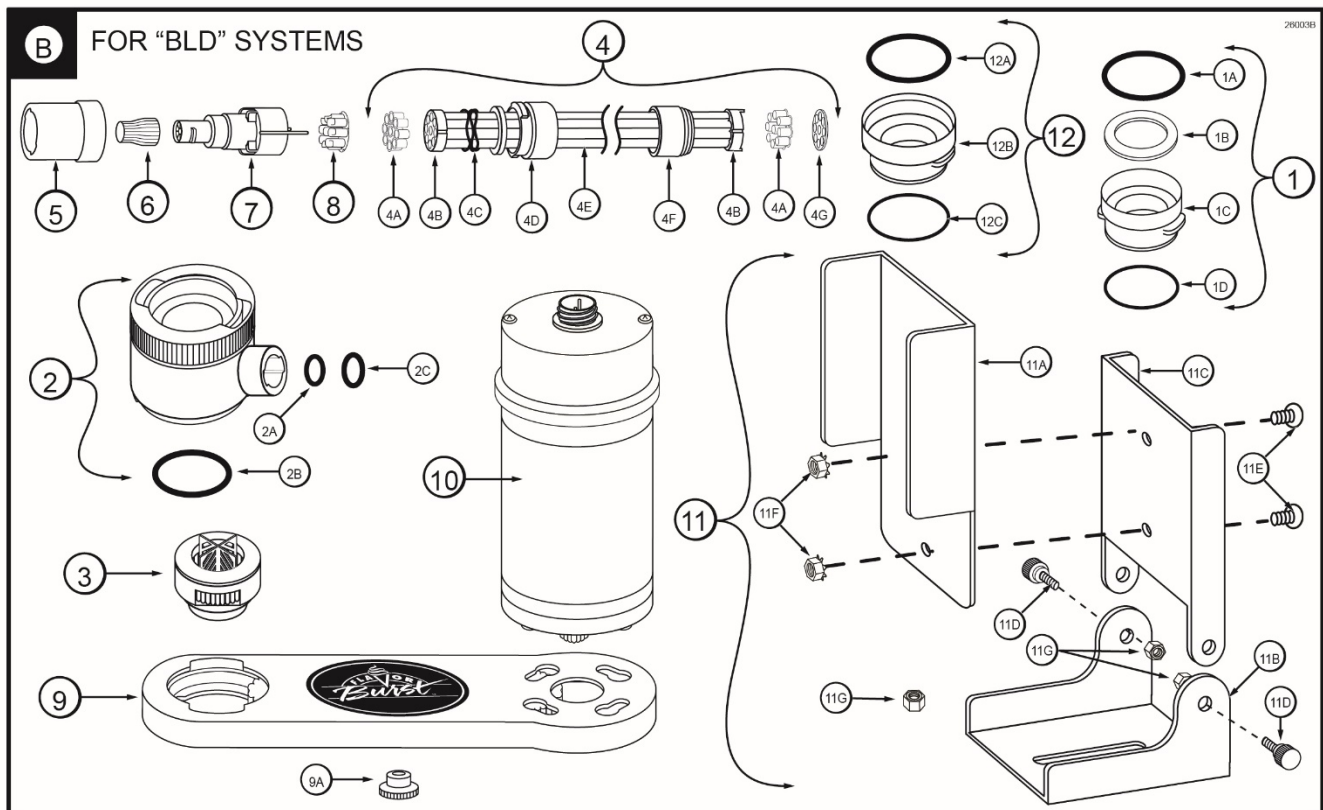

Figure 4B
**“BLD” Blending Assembly and Related Parts (See Figure 4B)**